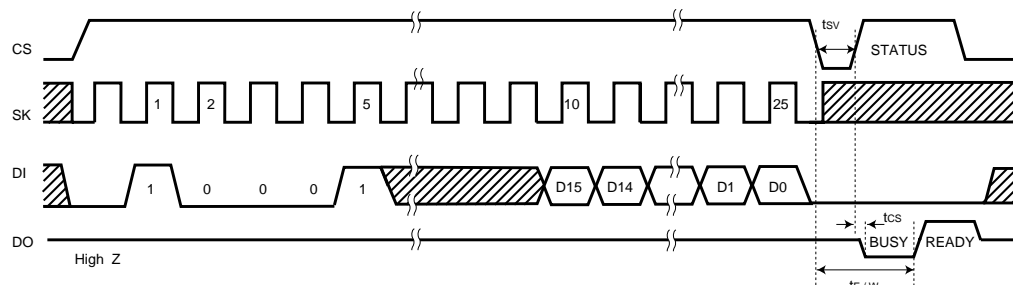

Fig.13 Write all address cycle timing. (WRAL)
(7) All address write (Fig.13)